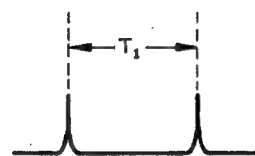

Figure 8-19.
2. Monitoring TP5 with an oscilloscope (internal trigger), adjust R7778 to obtain $T_1 = 4.4\text{ms}$ as shown in Figure 8-19.
2. Monitoring TP9 with an oscilloscope (internal trigger), adjust R7770 to obtain $T_1 = 4.6\text{ms}$ as shown in Figure 8-19.